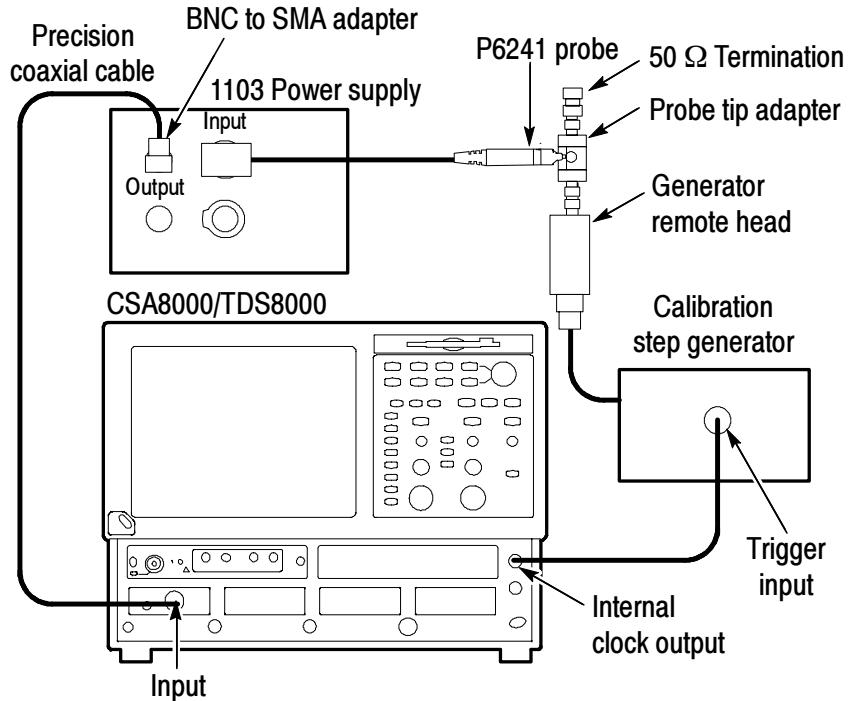

Figure 17: Test system and probe rise time setup
The following steps are for assembling the test setup that includes the probe, as shown in Figure 17 on page 50. The system and probe rise time (t_{s+p}) that you measure in step 12 is used to calculate the probe rise time (t_p) in step 13.
11. Adjust the oscilloscope horizontal and vertical position controls to display a signal similar to that shown in Figure 17.